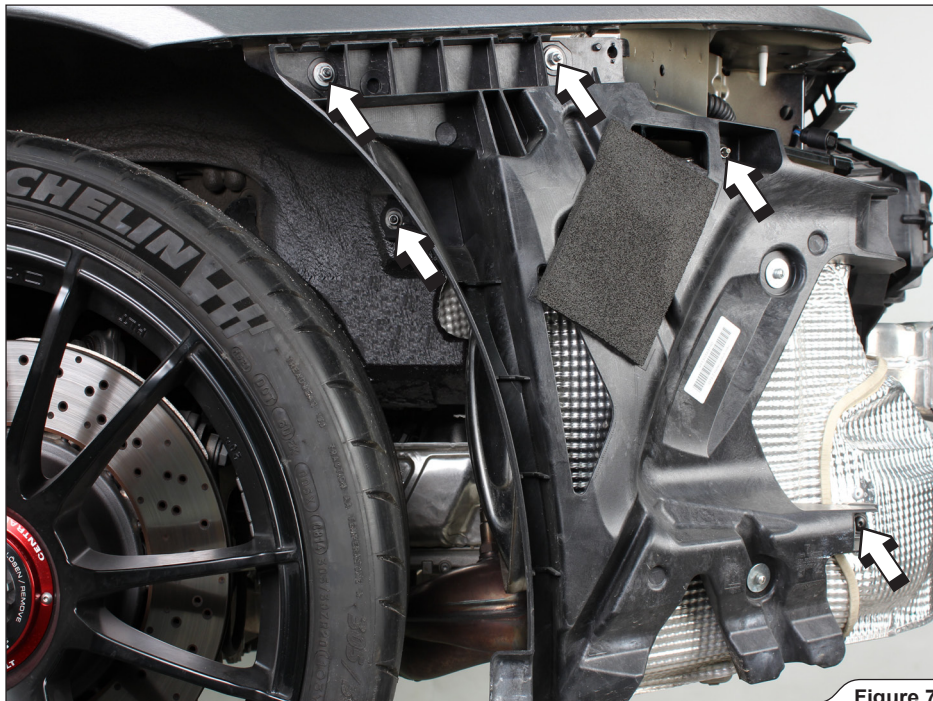

Figure 7
7. Unscrew the marked bolts, on both sides of the vehicle and remove exhaust heat shields (Figure 7, 8).